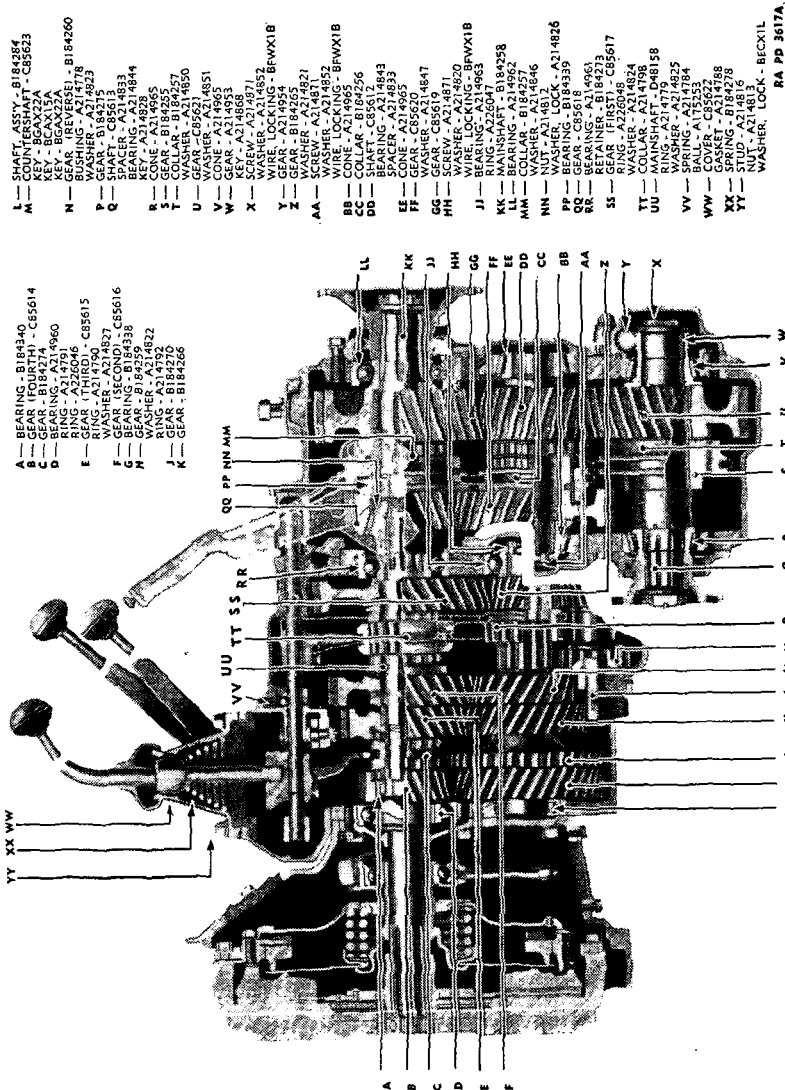

Figure 78.—Transmission assembly, sectioned.
*b. Operation* (figs. 78, 79, 81, and 82).—Power is received by the transmission from the engine, through the clutch, and then through the transmission main drive gear, whose splined shaft engages with the clutch splined hub. Power then flows through the transmission,